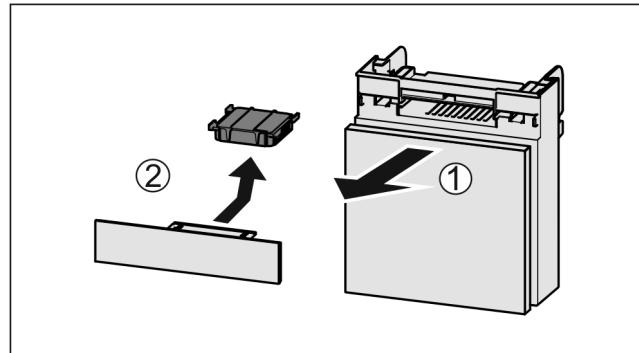

Fig. 155
- Pull out the compartment Fig. 155 (1).
- Remove the carbon filter Fig. 155 (2).